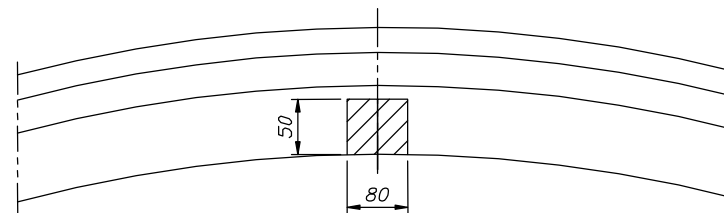

Fig. 2
4. Cut out the fragment of the bumper in the bottom part of the bumper – (see fig. 2).